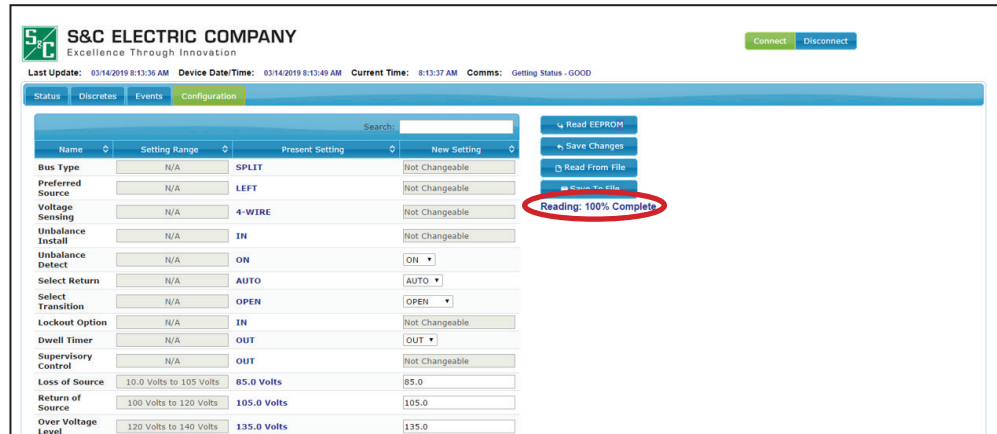

Figure 20. The progress status bar when saving settings.
STEP 4. To verify the settings are being saved, look for the progress status to appear as shown in Figure 20.